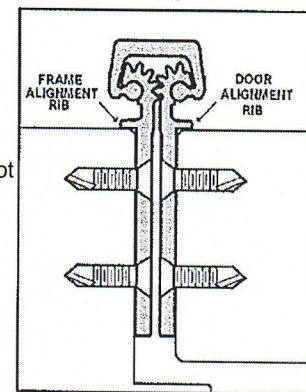

Fig. 2
1. With the hinge open, place the hinge door leaf against the edge of the door making certain that the alignment rib is flush against the door face along its entire length. (See Fig. 2) Position the top of the hinge flush with the top of the door.